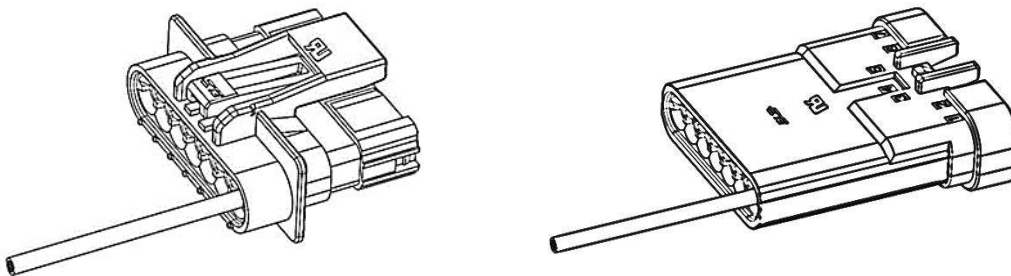

Figure 4
3. Insert the gang seal into the contact cavity at the back end (wire side) of the cap and plug housings as shown in Figure 4. Push seal into the contact cavity until it bottoms in the housing.